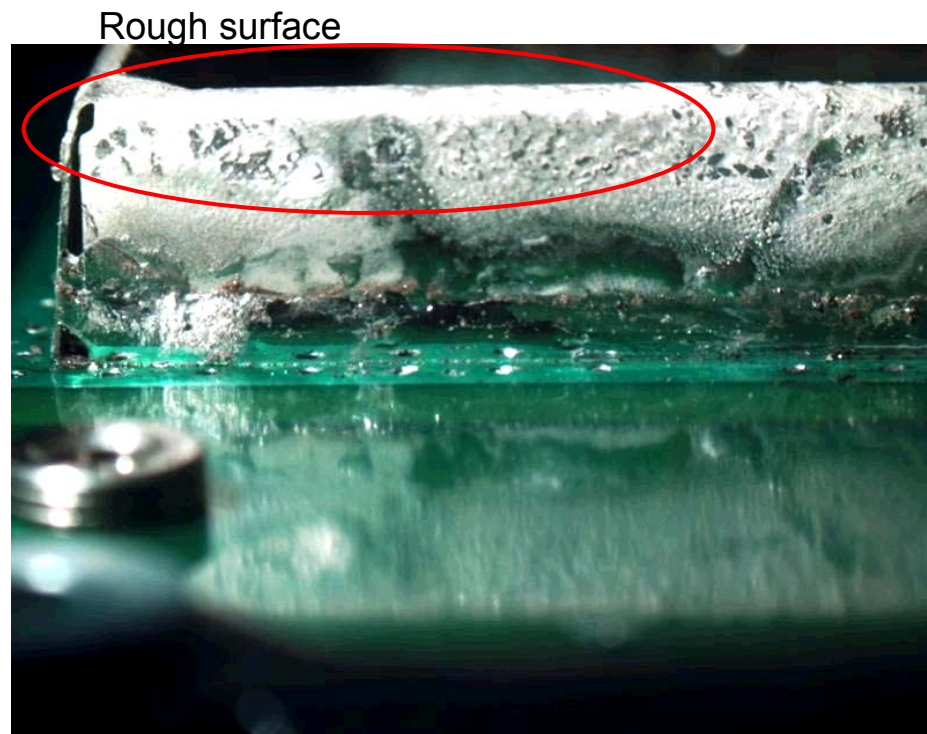

Figure 5. All shields must align properly to the pc board footprints. No bent or misaligned shields are allowed.
- c. Check that the shield frame walls align properly with the pc board footprint. Refer to Figure 5. If possible, re-solder the shield frame walls so that they are properly aligned. If this is not possible, replace the A4 DIF board with a new assembly.